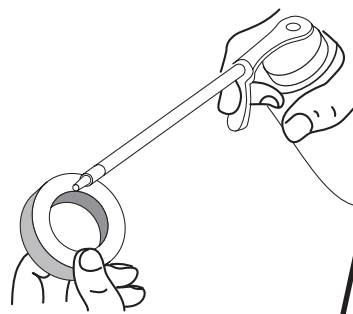

Fig. 37
4. Apply enough clean SAE 30 oil to lightly coat the filter (Fig. 37).